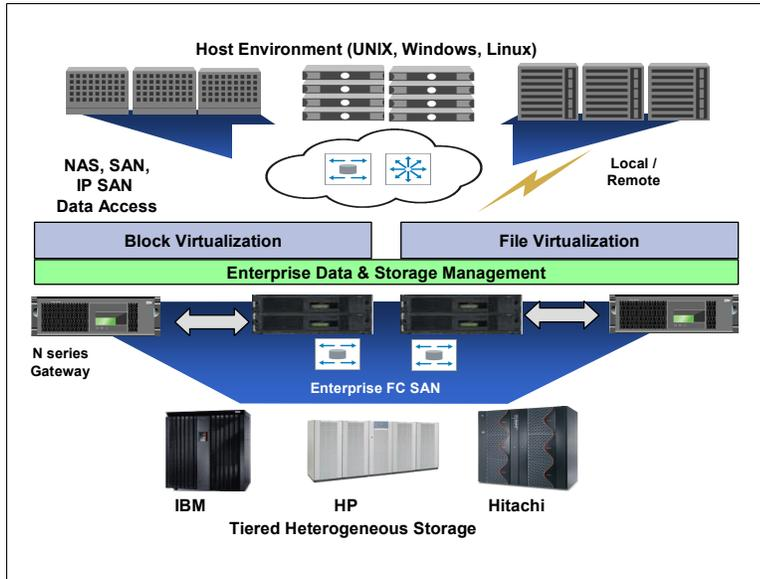

Figure 1-44 Tiered heterogeneous storage
- ▶ Transforms conventional storage systems into a better managed storage pool (Figure 1-44)